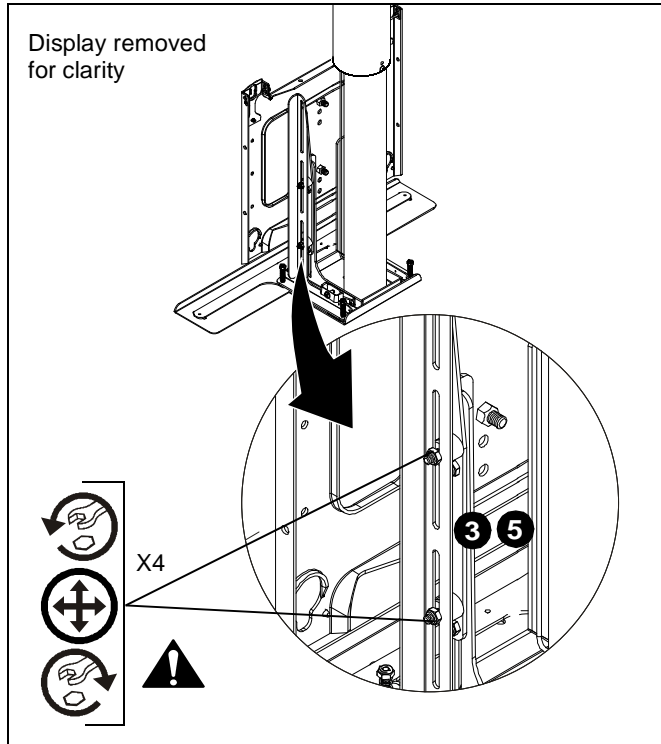

Figure 20
4. Loosen four nuts securing right and left hand bottom cover adjustment brackets to faceplate mounting bracket. (See figure 20)
6. Tighten four nuts to secure bracket in position. (See figure 20)